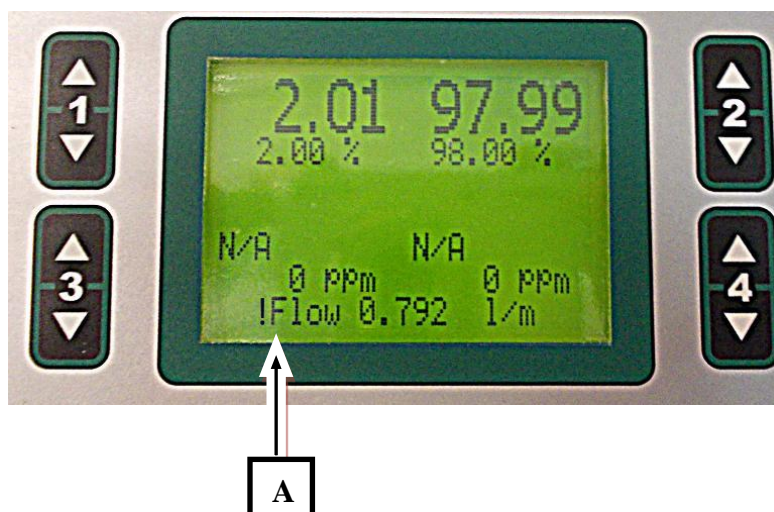

Fig. 13 Exclamation mark
- If the gas flow is too low (for example blocked tubes or source of gas is empty) the display shows an exclamation mark ! (see picture below Fig. 13) Be aware that in this case optimal gas mixing precision cannot be granted!